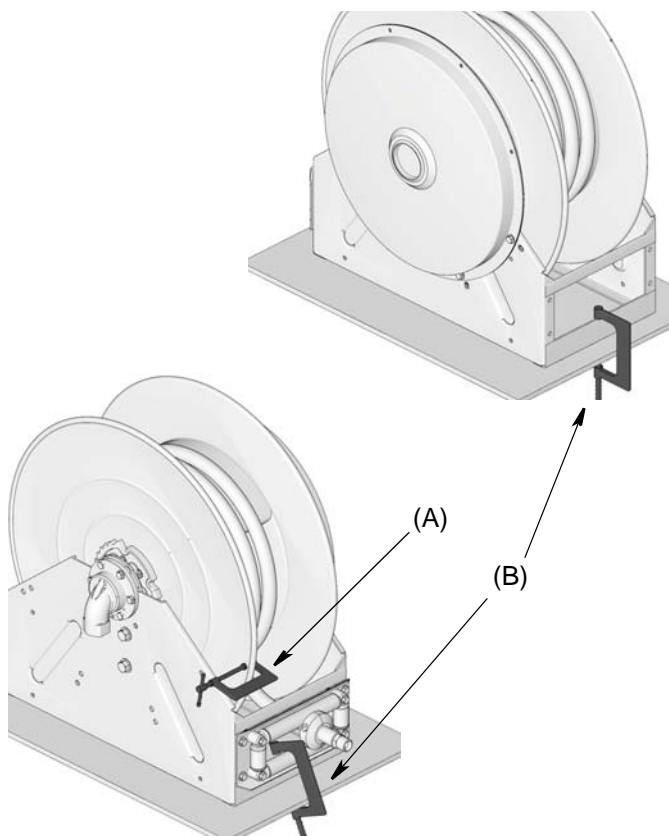

FIG. 22
3. Overhead or wall mounted hose reels must be removed from service and secured to a flat surface (B, FIG. 22) before changing the inlet orientation.
5. Engage latch. Securely attach a c-clamp (A) to the spool as shown in FIG. 22 to help prevent the reel from unintentionally spinning freely.